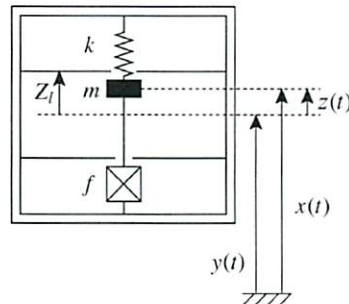

Figure 1 Motion-Driven Energy Harvester
i) Explain the difference between the two main categories of motion-driven energy harvester (one of which is shown in Figure 1) and how they might be applied in the human body. Discuss the advantages and disadvantages of each.